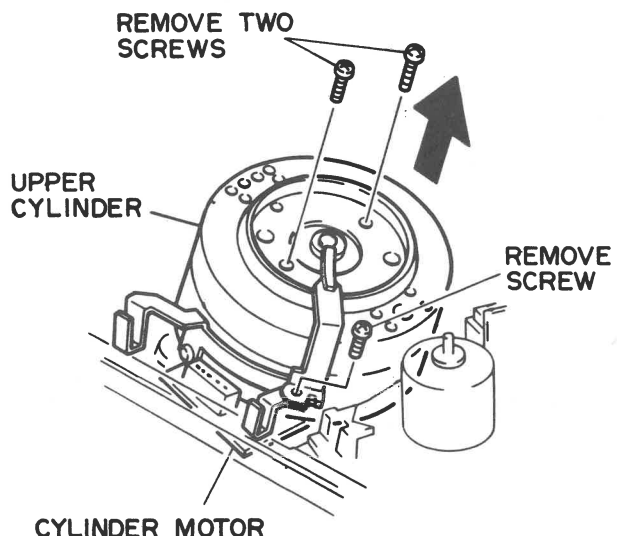
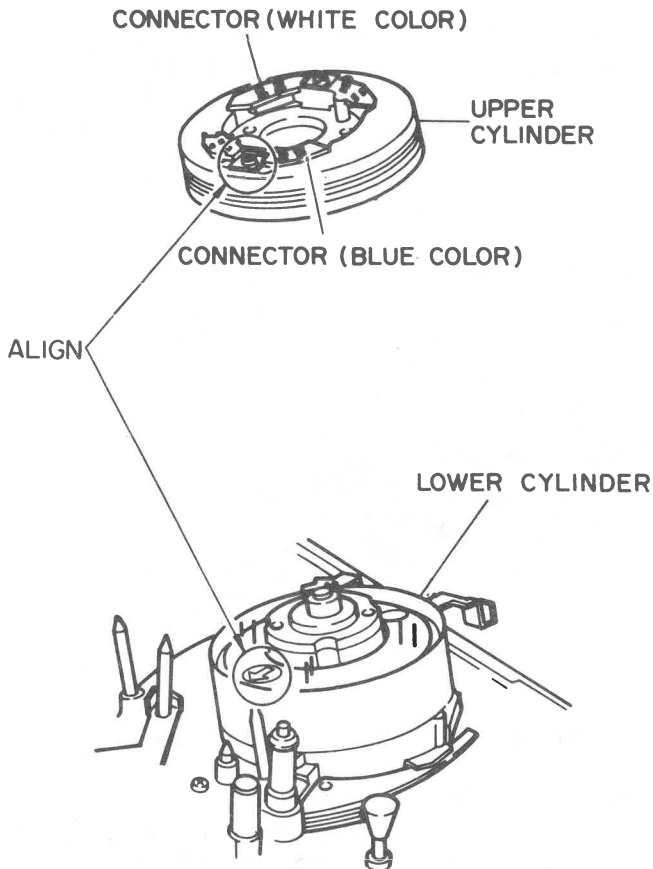

Fig. 20 Upper Cylinder Removal
Fig. 21 Upper Cylinder Alignment
**Upper Cylinder Removal** (Figs. 20, 21)
2. Remove one (1) screw holding the static discharge brush.
3. Remove two (2) screws and pull up on the upper cylinder to remove.
4. Upon reinstallation, align the video heads connected to the blue connector of the upper cylinder with the arrow mark on the lower cylinder (Fig. 21).